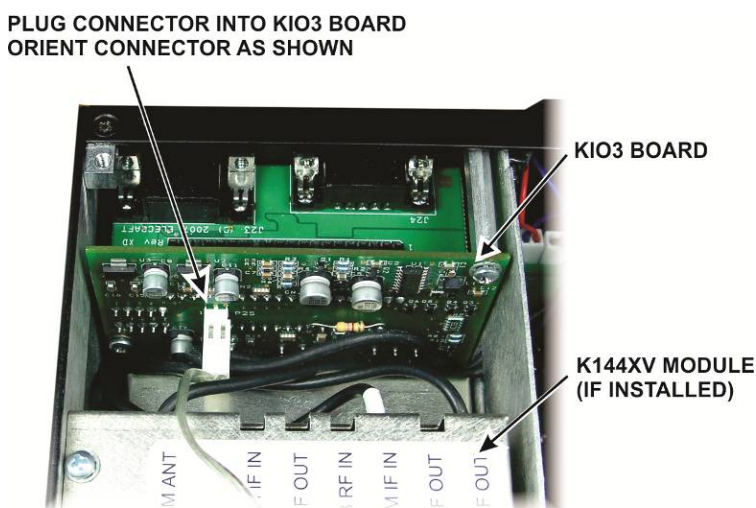

Figure 16. Plugging the Speaker Wire into the KIO3 Board.
- Plug the speaker wire into P25 on the KIO3 board at the left rear of the K3 as shown in Figure 16.